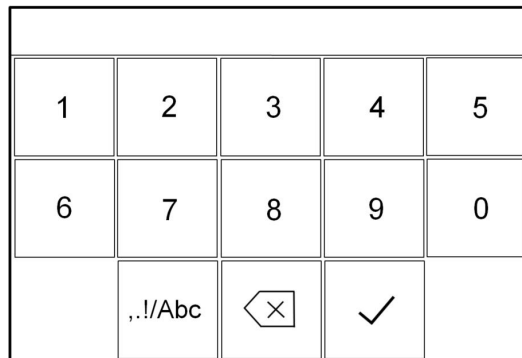

Figure 42
1) Touch Click “**20**” to enter into Batch setting interface as Figure 42 :